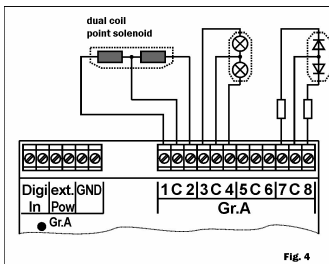

Fig. 4
The common wire of the solenoid has to be connected with C. The other two wires of the solenoid are connected left and right of C (see figure 4). Is the position of the point not according to the button pressed, exchange both wires of the solenoid.
**Connecting light signals with bulbs:** The common wire of the light signal has to be connected with C. The other two wires of the bulbs are connected left and right of C (see figure 4).